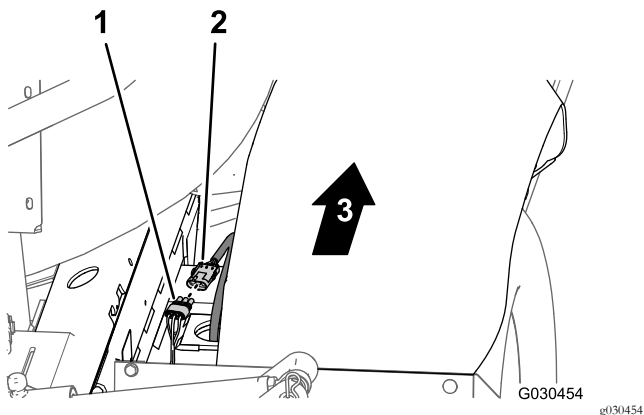

Figure 36
1. At back of the machine (between the right frame tube and the right fender) disconnect the 3-pin connector of the speed-sensor harness at the right hydraulic-traction motor from the 3-socket connector of the rear, main harness (Figure 36).